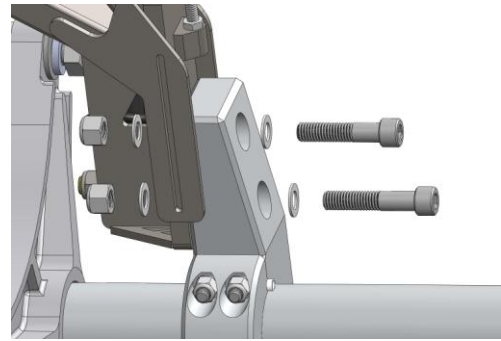

Figure 9
- d. Attach axle clamp to swing arm using the supplied hardware. Snug hardware just enough to still allow the clamps to slide in the swing arm as adjustments will be made later. Figure 9